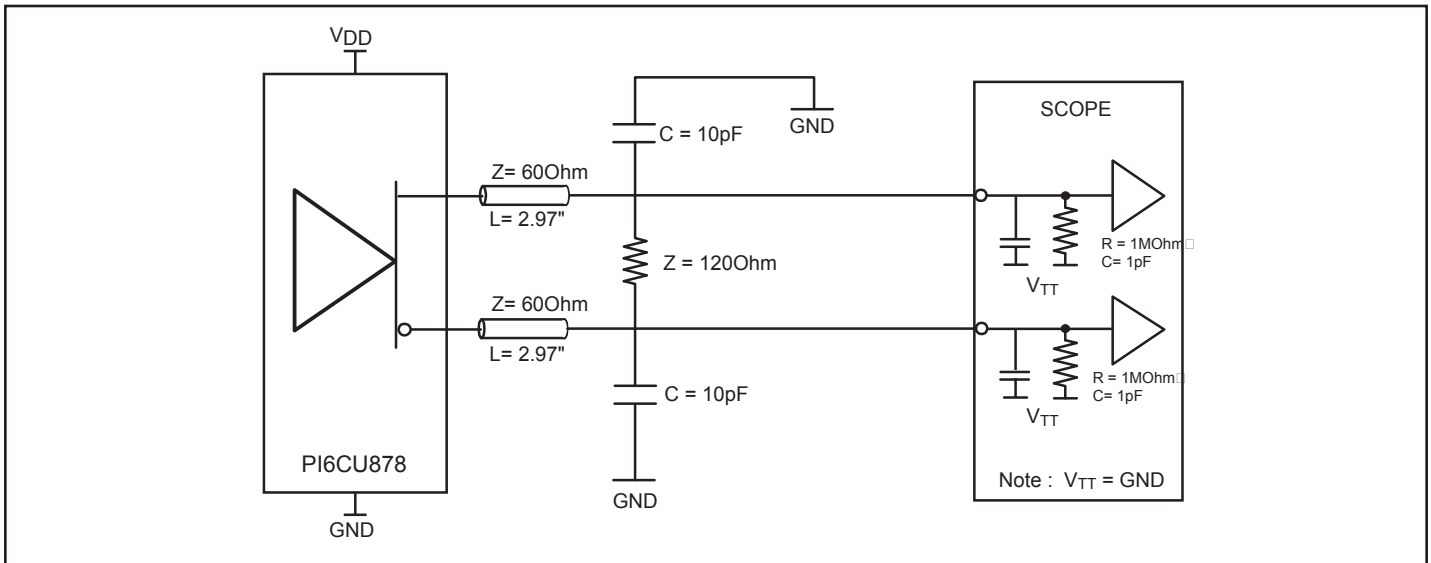

Figure 2. Output Load Test Circuit 1
- There are two terminations that are used with the above ac tests. The load/board in Figure 2 is used to measure the input and output differential-pair cross-voltage only. The load/board in Figure 3 is used to measure all other tests. For consistency, equal length cables should be used.